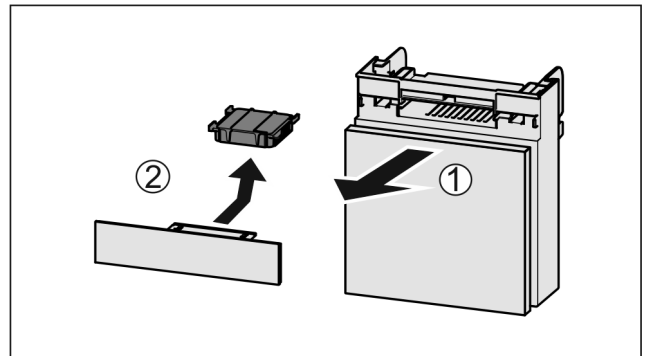

Fig. 77
- ▶ Pull out the compartment Fig. 77 (1).
- ▶ Remove the carbon filter Fig. 77 (2).